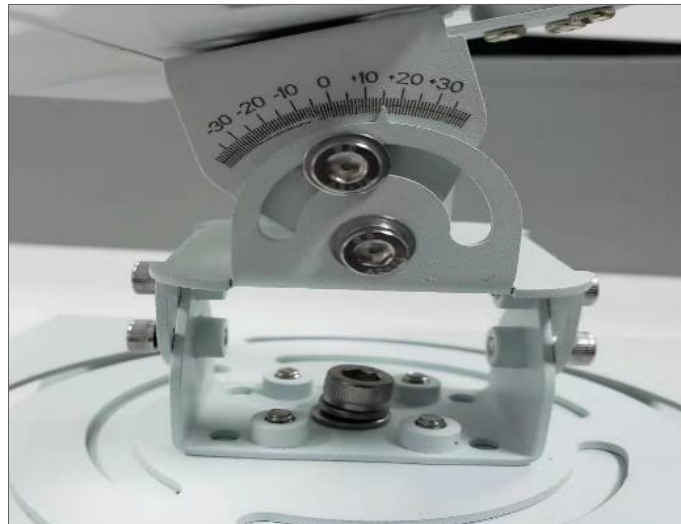

Figure 9 - Recording the angle of inclination
- 2) According to the actual mounting height, find the angle α given in table 1, and the final pitch angle is ($\gamma + \alpha$) on the side scale, with the tolerance of $\pm 1^\circ$. For example, if the radar is mounted at 7 meters height, the initial pitch angle is 0° , and the radar pitch angle ($\alpha + \gamma$) is 15° (Figure 9). In the actual mounting process, the initial angle is generally not equal to 0 degrees.